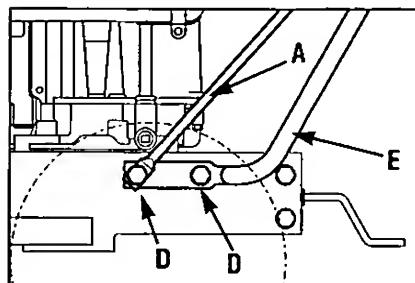

Figure 2-2B: Attach handlebars and bottom of struts to engine deck.
2. Remove and save two 5/16" screws securing ends of handlebars to engine deck. To free handlebars from shipping position, raise the two handlebar struts (A, Figure 2-2B) to a 45° angle. From front of machine, tilt right-side handlebar up over engine air cleaner and then lift other handlebar upward. Rotate handlebars over engine and position bottom of handlebars against sides of deck (see E, Figure 2-2B).
NOTE: Four screws (D, Figure 2-2B) are used to connect the handlebars to the engine deck. The screws thread into lock nuts welded to the back sides of the deck.
4. Swing the struts to 45° forward. Align the handlebar ends (E, Figure 2-2B) with the holes in the engine deck. Install two 5/16" hex flange screws (D, Figure 2-2B) into the *rear* holes and tighten.
5. Position both struts (A, Figure 2-2B) so the ends are aligned over the *front* holes in the handlebar ends. Secure the struts and handlebars with two 5/16" hex flange screws. Tighten all four screws. Tighten nuts "C."